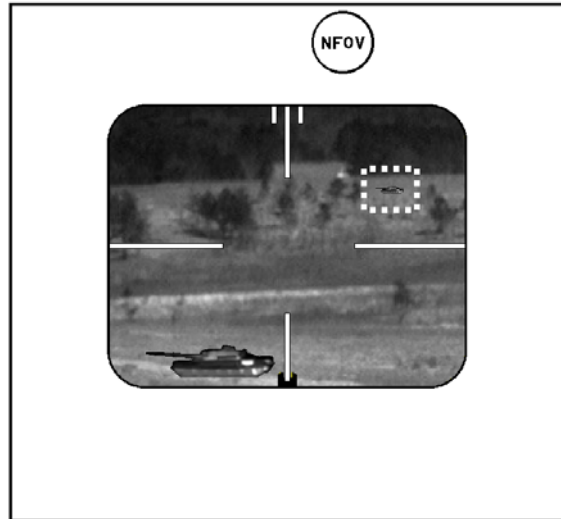

Figure E-34. Effects of range on target details.
- Range to target. The gunner's ability to distinguish a target at maximum range from its background is restricted due to limitations of the NVS magnification, image resolution, and obscurants. When the target moves toward the gunner, the clarity of target details increases as range to the target decreases (Figure E-34).